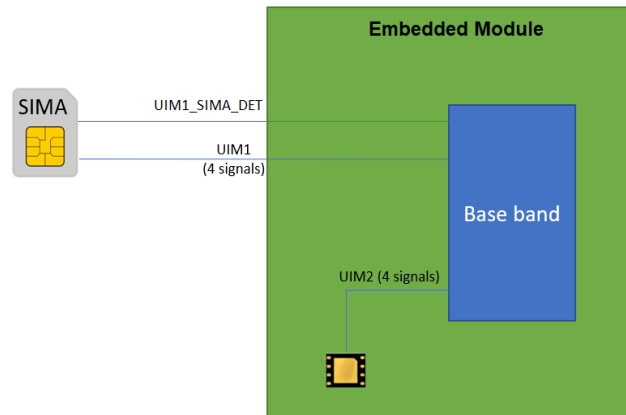
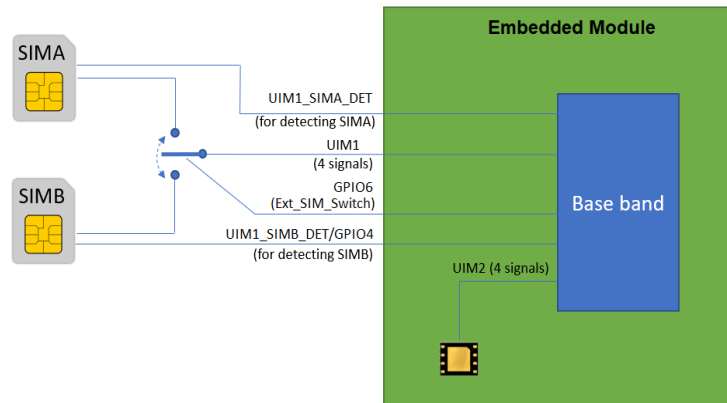

Figure 4-2: Single External SIM Configuration
Figure 4-3: Dual External SIM Configuration
- UIM1 — this interface allows control of 1.8V or 2.85V UIMs. It also supports single or external dual SIMs. For usage details, see Figure 4-2 and Figure 4-3.
Note: Figure 4-2 illustrates the recommended implementation of a single external SIM configuration. For a detailed UIM schematic, see Figure 5-7.
Note: Figure 4-3 illustrates the recommended implementation of a dual external SIM configuration. For a detailed external SIM schematic, see Figure 5-8.